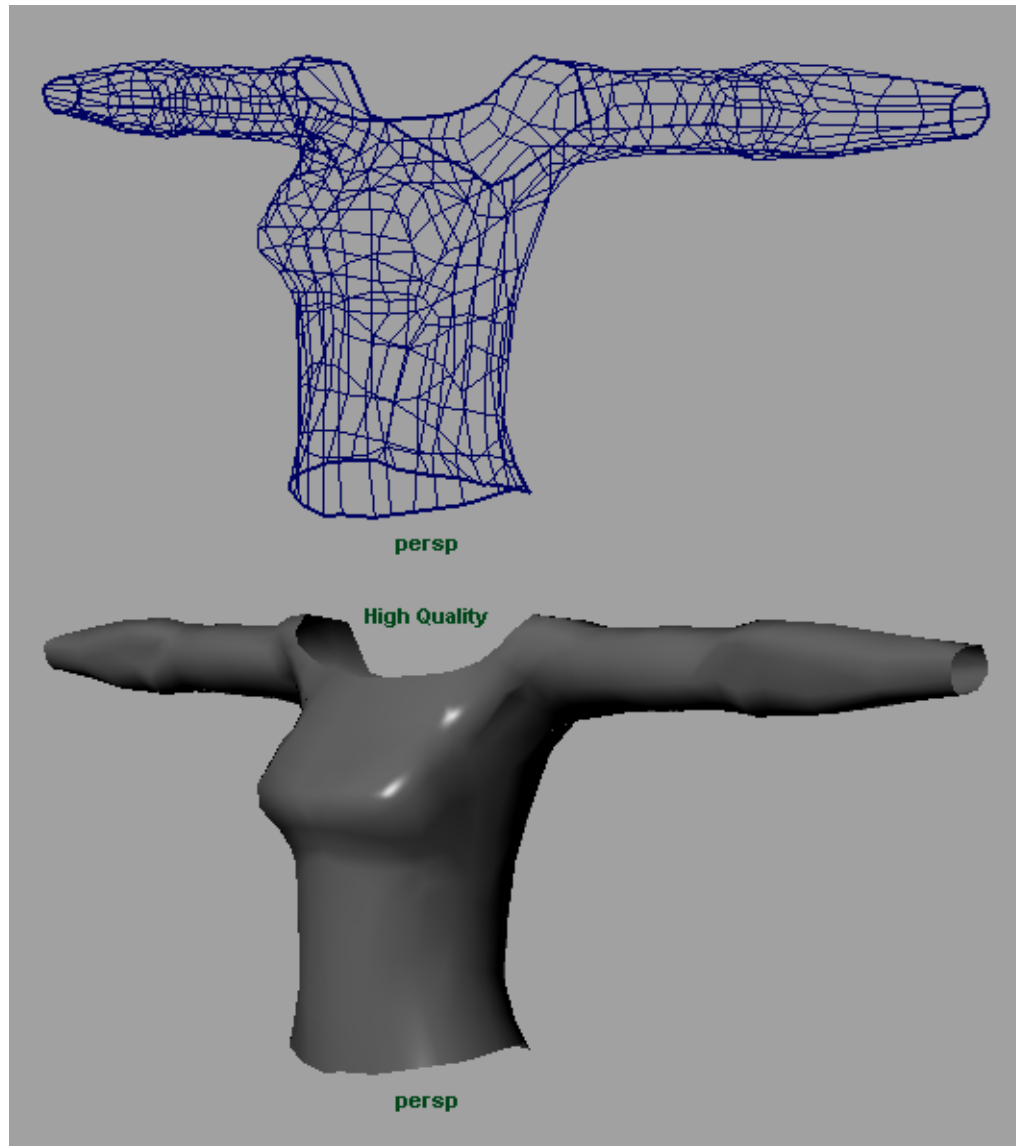

FIGURE 2-29. Torso displayed as wireframe and with smooth shading.
- 8 Go to the Shading menu on the viewer window and turn on High Quality Rendering, Smooth Shade All and Hardware Texturing to see the normal map result (Figure 2-29).